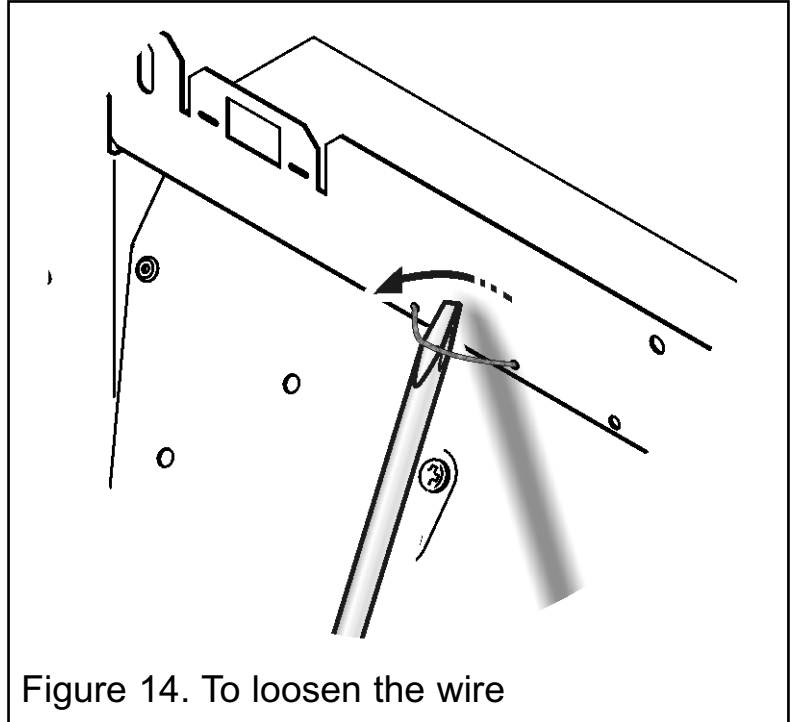

Figure 14. To loosen the wire
3. The firefront is held in place with a single wire. It will be necessary to loosen and remove the wire at one side. Do this by placing a flat ended screw driver or similar tool behind the wire loop on the front of the firefront (See figure 14). Push the wire loop towards the outer hole and pull on the wire where it passes through an outer hole in the firefront. The wire should become loose and can then be pulled from the outer hole. With the end of the wire free, gently pull the firefront forward.